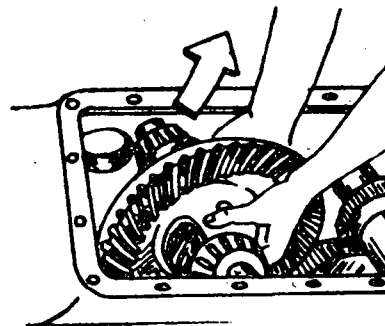

Fig. 3
- d) Remove the ring gear and differential cage (Fig. 3).